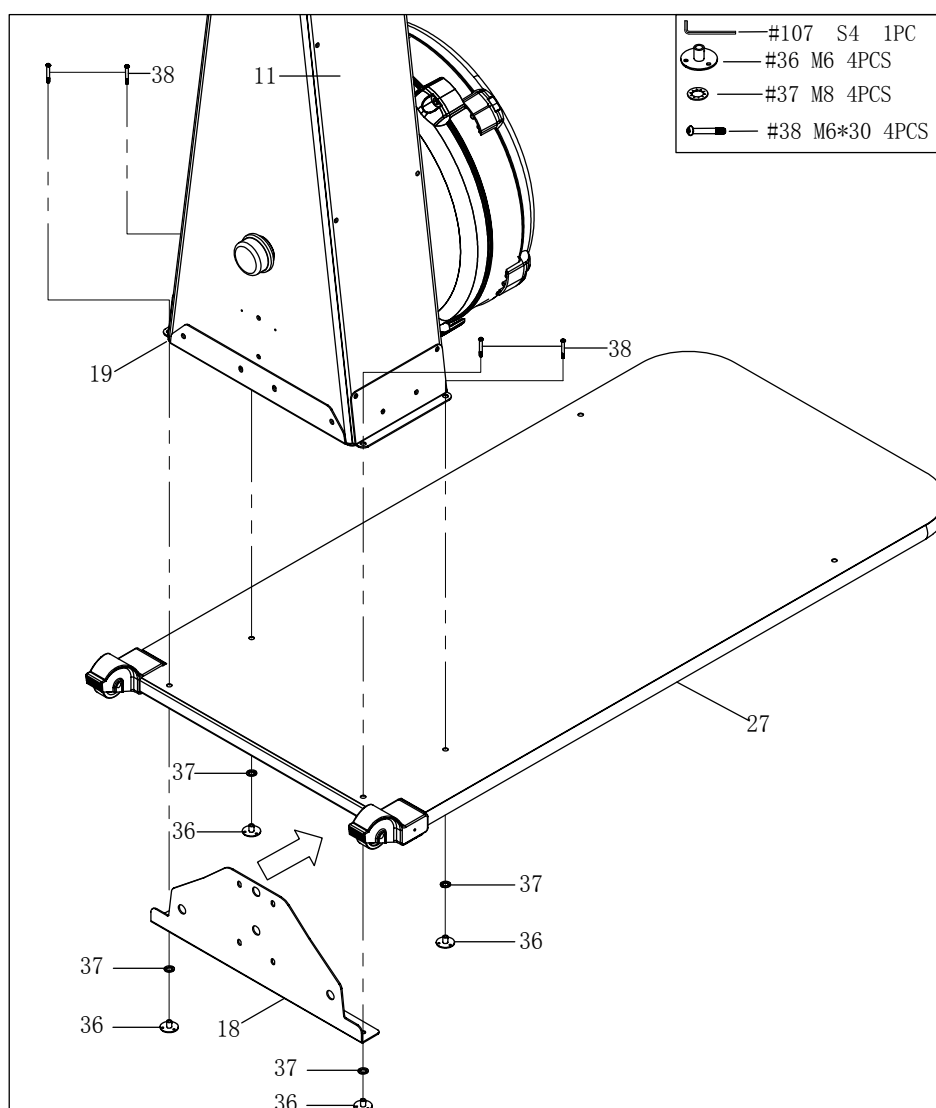

Fig. 15
4. Remove the strengthening plate (18), bottom board (27), four bolts (38), four lock washers (37), and four lock nuts (36) from the main frame (11) (Fig. 15).